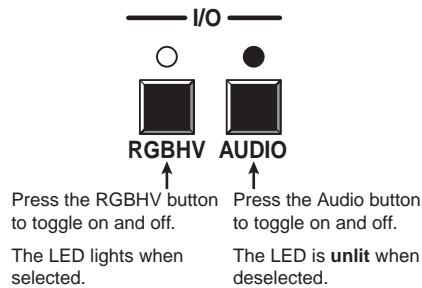

Figure 3-11 — Select RGBHV only
2. To select video only for the tie, if necessary, press and release the RGBHV button and/or Audio button (figure 3-11).